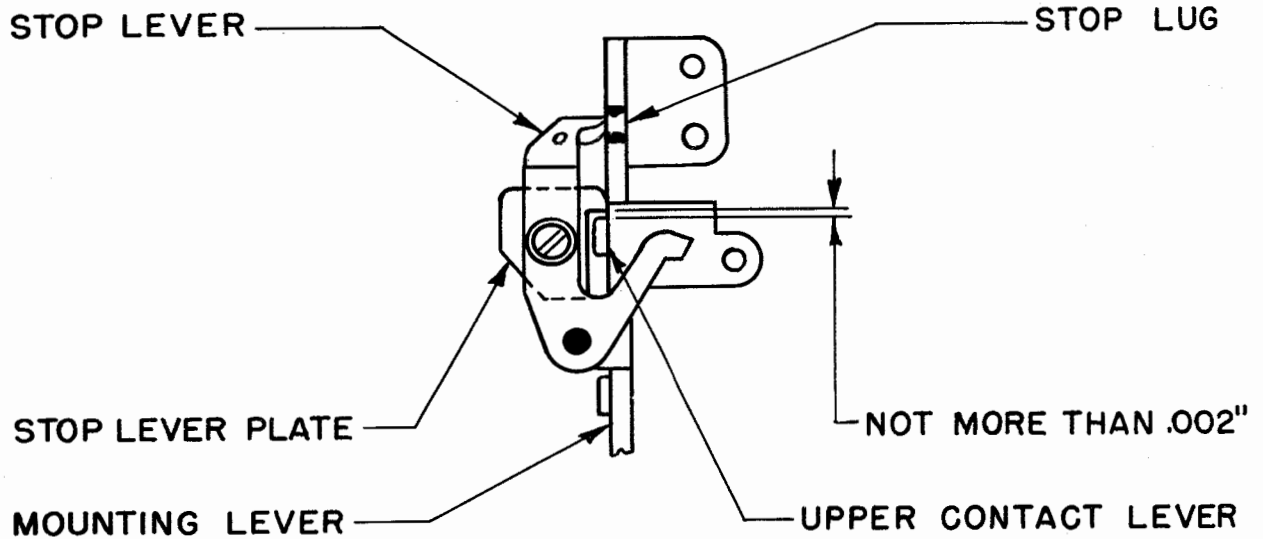

Figure 57
is in the send position, (2) the intermediate-lever toe is under the blank function-lever extension, (3) the blank combination is set up, (4) the mainshaft is rotated until the function-bail roller just leaves the cam surface of the blank-function lever, and (5) the send-receive-break-mechanism break-lever (key) is depressed and immediately released. See Figure 57.